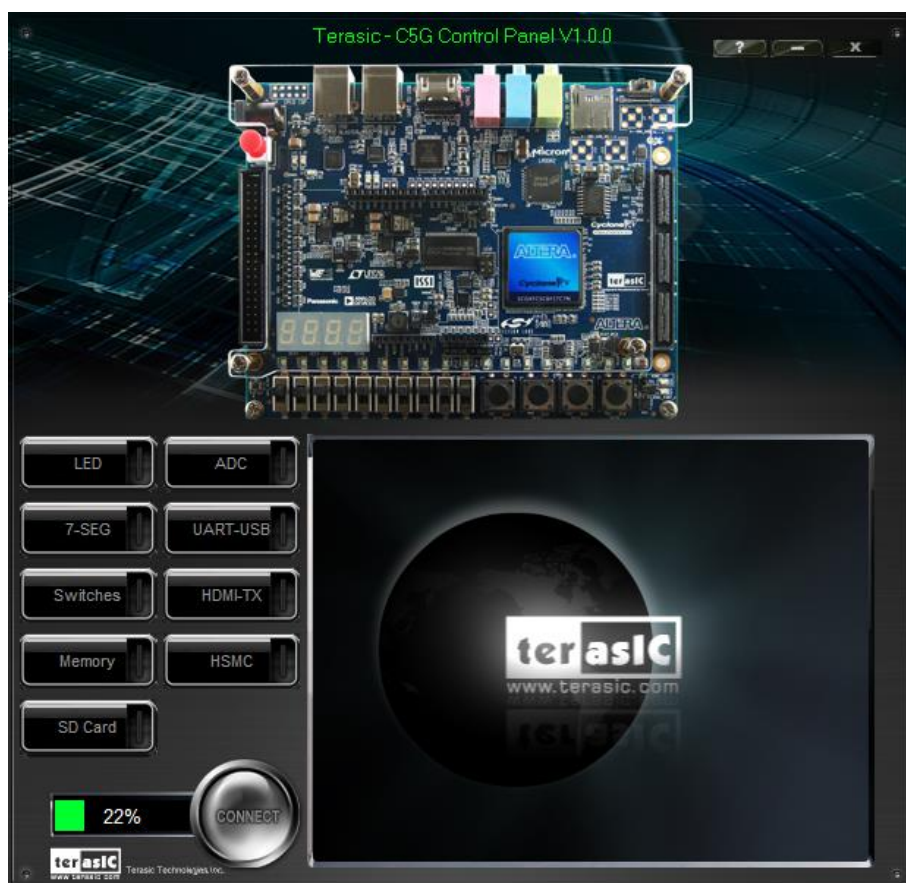

Figure 2-1 The C5G Control Panel
4. Start the executable C5G_ControlPanel.exe on the host computer. The Control Panel user interface shown in **Figure 2-1** will appear.